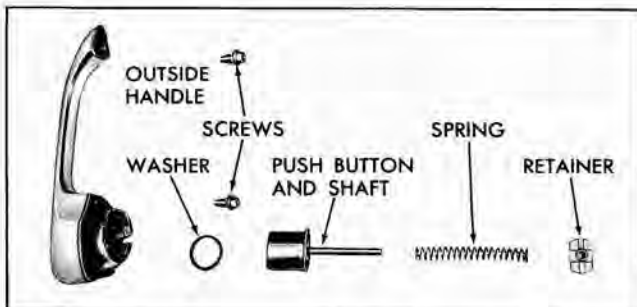

Fig. 3-12 Front Door Outside Handle
3. To assemble, reverse disassembly procedure (see Fig. 3-12).